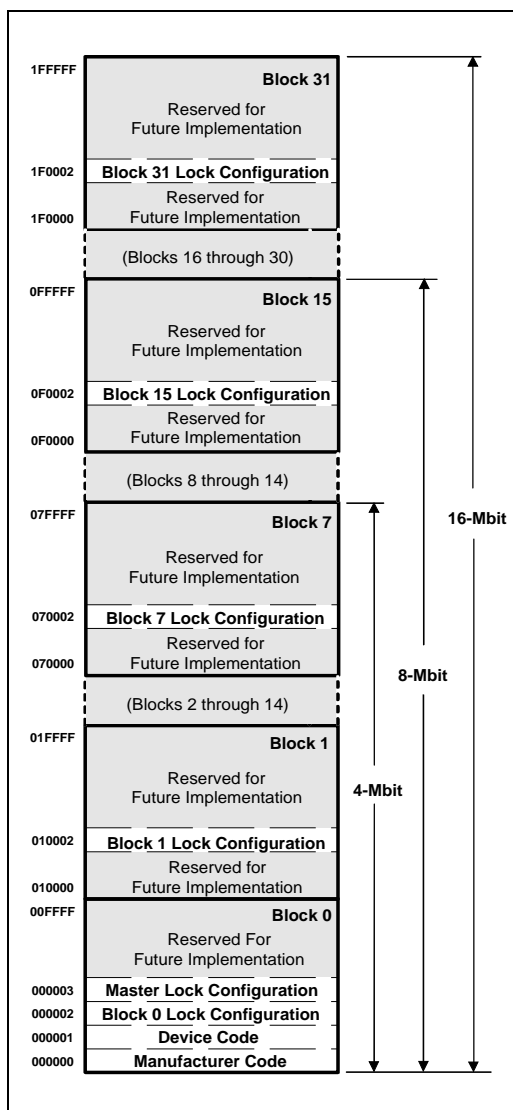

Figure 5. Device Identifier Code Memory Map
The read identifier codes operation outputs the manufacturer code, device code, block lock configuration codes for each block, and master lock configuration code (see Figure 5). Using the manufacturer and device codes, the system software can automatically match the device with its proper algorithms. The block lock and master lock configuration codes identify locked and unlocked blocks and master lock-bit setting.
IA = Identifier Code Address: see Figure 5.
The identifier code operation is initiated by writing the Read Identifier Codes command. Following the command write, read cycles from addresses shown in Figure 5 retrieve the manufacturer, device, block configuration and master lock configuration codes (see Table 4 for identifier code values). To terminate the operation, write another valid command. Like the Read Array command, the Read Identifier Codes command functions independently of the V_{PP} voltage and $RP\#$ can be V_{IH} or V_{HH} . Following the Read Identifier Codes command, the subsequent information can be read.
1. X selects the specific block lock configuration code to be read. See Figure 5 for the device identifier code memory map.